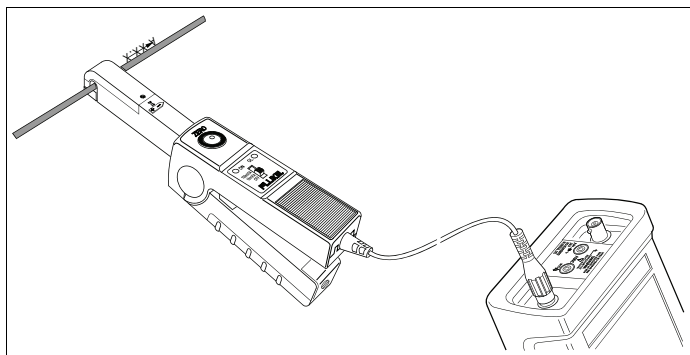

Figure 4. Measurement Setup
2. On the Probe, select the least sensitive range (10 mV/A). Make sure that the green ON-indicator lights. See Figure 4 for selector switch and green On indicator locations.
3. On the Probe, rotate the ZERO thumbwheel to adjust the reading to zero. See Figure 4 for the ZERO rotary knob location.
9. At completion, set the range selection switch to OFF again. A measurement setup with the Probe and a ScopeMeter test tool is shown in Figure 4.